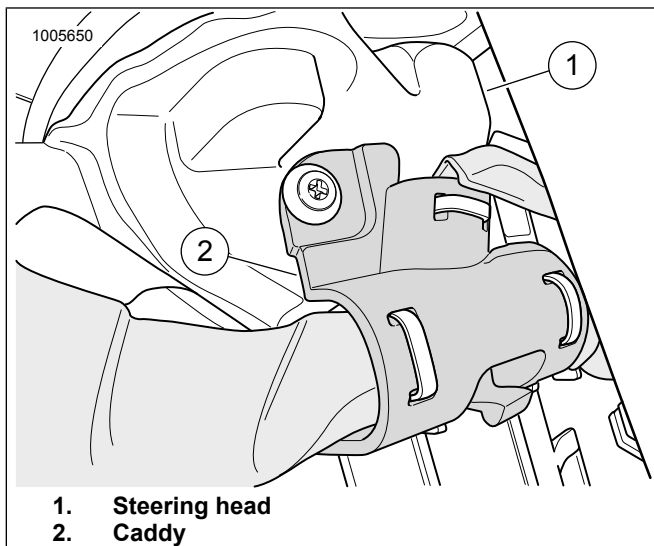

Figure 6. Steering Head
10. See Figure 6. Route end of 48-in. harness to steering head (1). Use caddy (2) to secure harness.